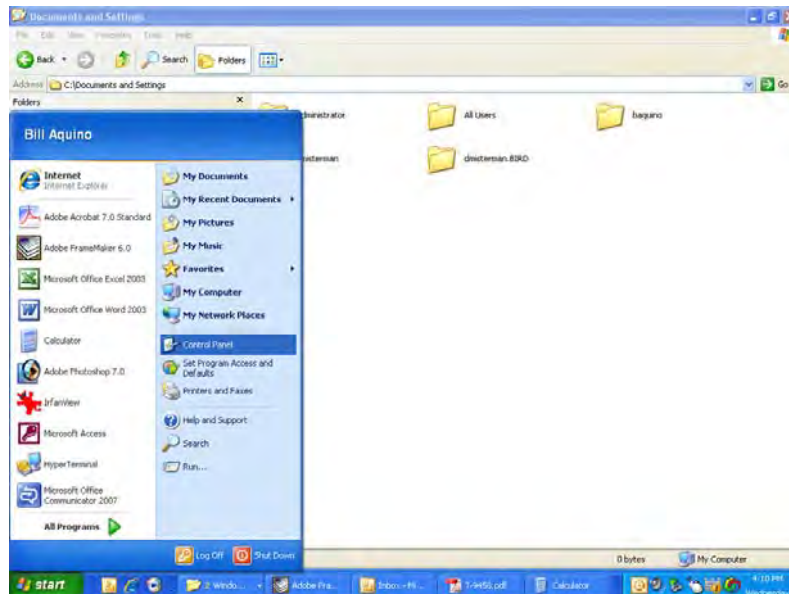

Figure B1: Choose the "Control Panel" icon.
- 2) Single click the "Control Panel" choice from the "Start" pop-up menu as shown in **Figure B1**.